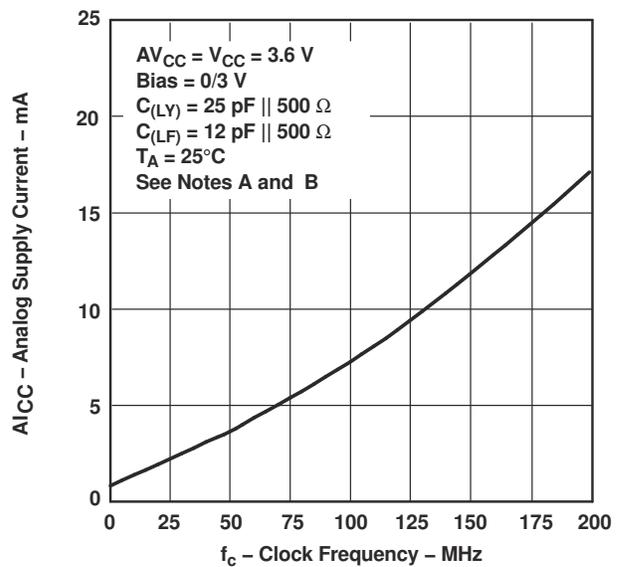

Figure 4-6. Analog Supply Current vs Clock Frequency
- (1) For conditions shown as MIN or MAX, use the appropriate value specified under the *recommended operating conditions* section.
(2) For dynamic I_{CC} vs Frequency, see Figure 4-6 and Figure 4-7.